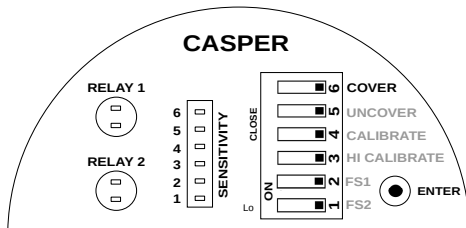

Figure 21: Saving Cover Delay
- Delay is entered, but not saved. To save and test the cover delay, set the COVER switch back to OPEN position as shown in Figure 21.